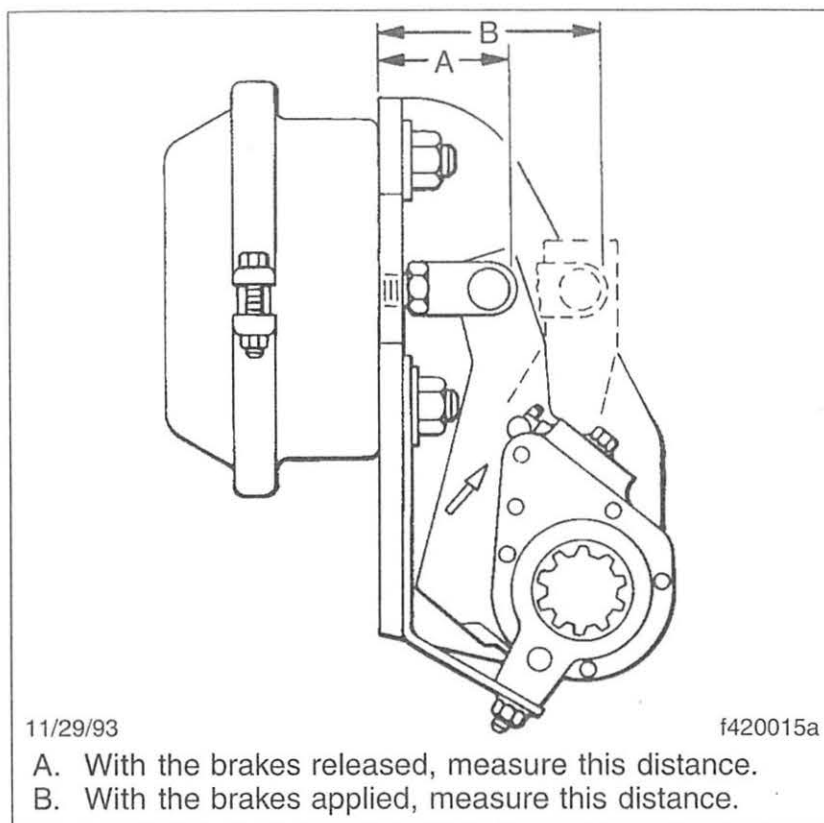

Fig. 11.17, Brake Stroke Check, Haldex Automatic Slack Adjuster
If the control arm is fully released, install the clevis pin. If the holes in the adjuster and the clevis do not remain aligned, it means the control arm is not against the internal body stop. This indicates an incorrect installation. Move the adjuster into alignment with the clevis hole, and install the clevis pin. Loosen the control-arm nut, and rotate the control arm toward the brake chamber until you can feel it contacting the internal stop. See **Fig. 11.17**, Ref. A. Be sure the control-arm stud moves freely in the slot of the anchor strap.
- With the brakes released, measure the distance from the face of the air chamber to the far side of the clevis-pin hole. See **Fig. 11.17**, Ref. A. Record the exact distance as measurement A.
- Apply the service brakes and hold them on full line pressure of at least 80 psi (550 kPa). Measure the distance from the face of the brake chamber to the far side of the clevis-pin hole. See **Fig. 11.17**, Ref. B. Record the exact distance as measurement B.